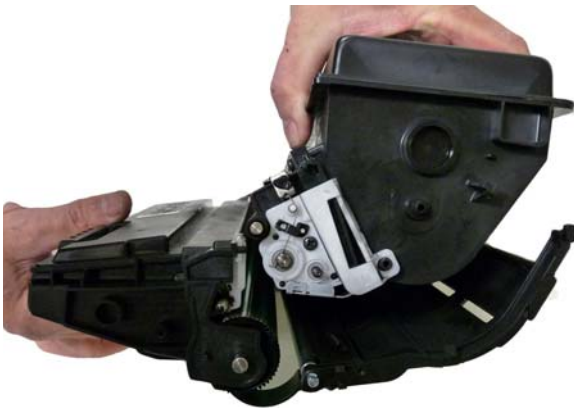

Figure 14
11) Remove the toner hopper from the frame. **Fig. 14**